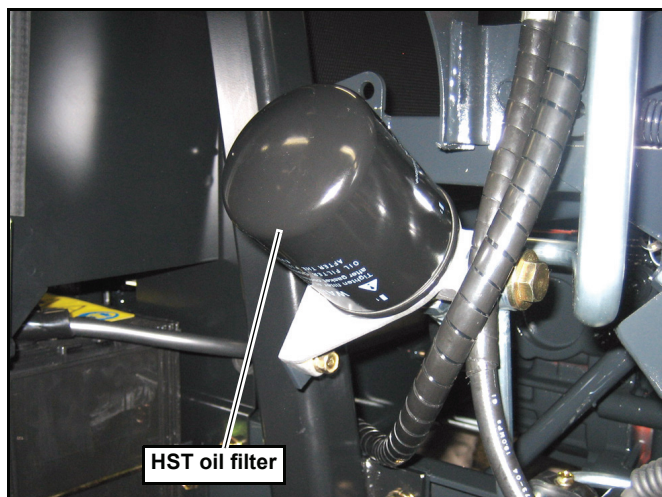
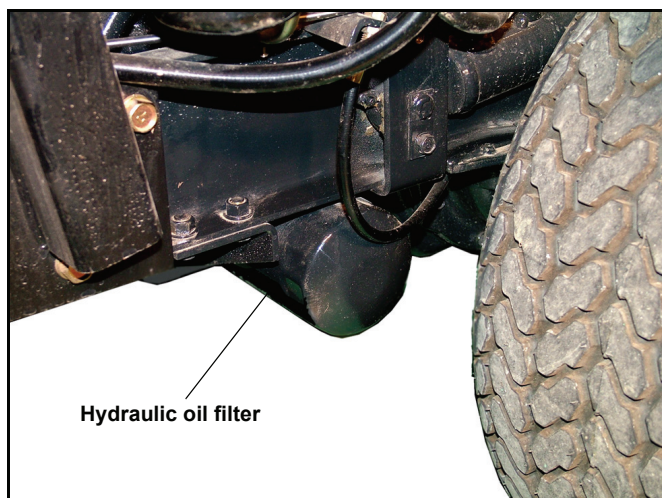

Figure 4-24
Figure 4-25
2. Unscrew the oil filters and discard. Figure 4-24 & Figure 4-25
Screw the filters into place until the gasket contacts the sealing surface, then tighten the filters approximately 3/4 of a turn by hand. Do not over tighten. Figure 4-24 & Figure 4-25